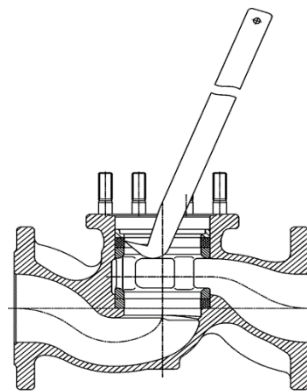

Figure 2
- » Pull out the thrust piece (Pos. 19) and the bonnet valve ring (Pos. 14) by means of a ring extractor hook (see Fig. 2)
- » Remove the thrust piece (Pos. 19) and upper valve ring (Pos. 14) by means of a ring extractor hook (see Fig. 2)